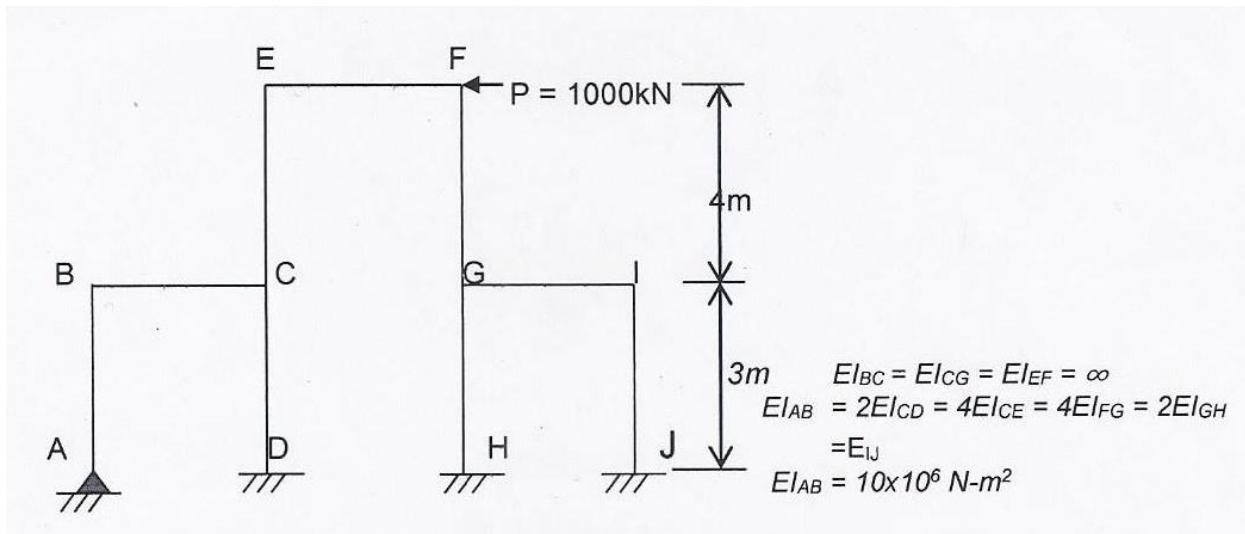

Figure Q5 (b)
- Hence otherwise, calculate the shear forces, bending moments and deflections at column ends for the frame loaded as shown in figure Q5(b). sketch the shear force and bending moments